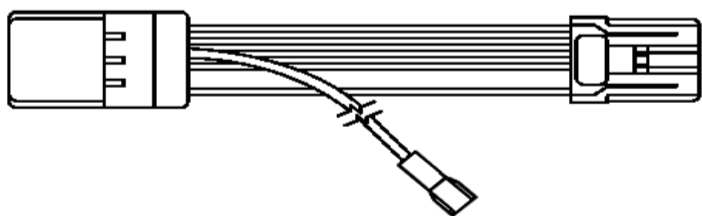

Figure 34 - (2006-2009 Trucks)
1) Locate the Dodge Adapter cables provided in the box. (see Figures 34 and 35)